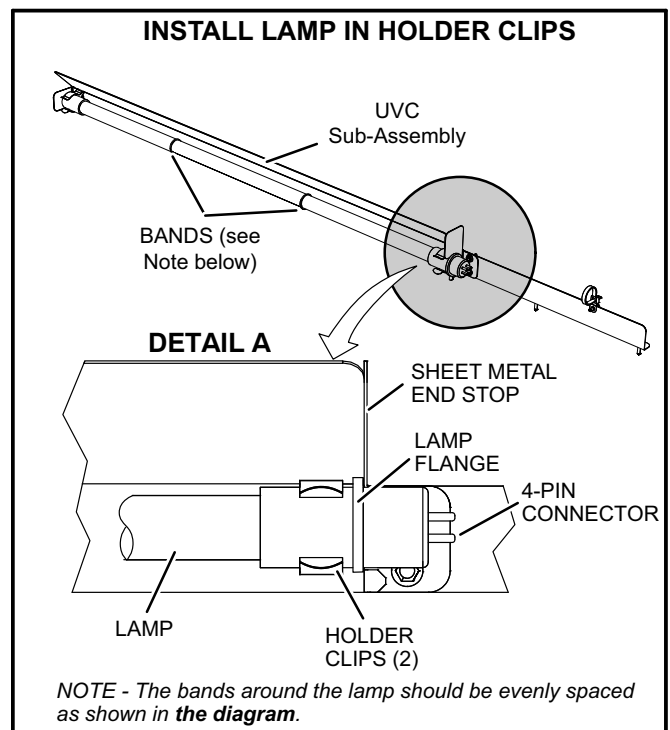

FIGURE 33
- 5- Remove the (2) mounting screws of the UVC assembly. Carefully slide the complete UVC assembly out through the blower access door.
- 7- Wear cotton gloves or use a cotton cloth when handling the new lamp. Place the new lamp in the holder clips of the UVC assembly. Verify that the lamp flange at the connector end is sandwiched between the lamp holder clip and the sheet-metal end stop (see figure 33).